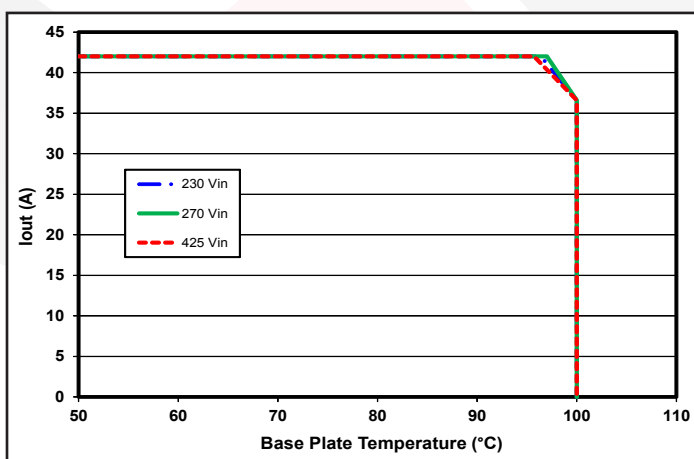

Figure 5: Maximum output current vs. base plate temperature.
**Thermal Considerations:** The maximum operating base-plate temperature,  $T_B$ , is 100 °C. Refer to the thermal derating curve, Figure 5, to see the available output current at baseplate temperatures below 100 °C.